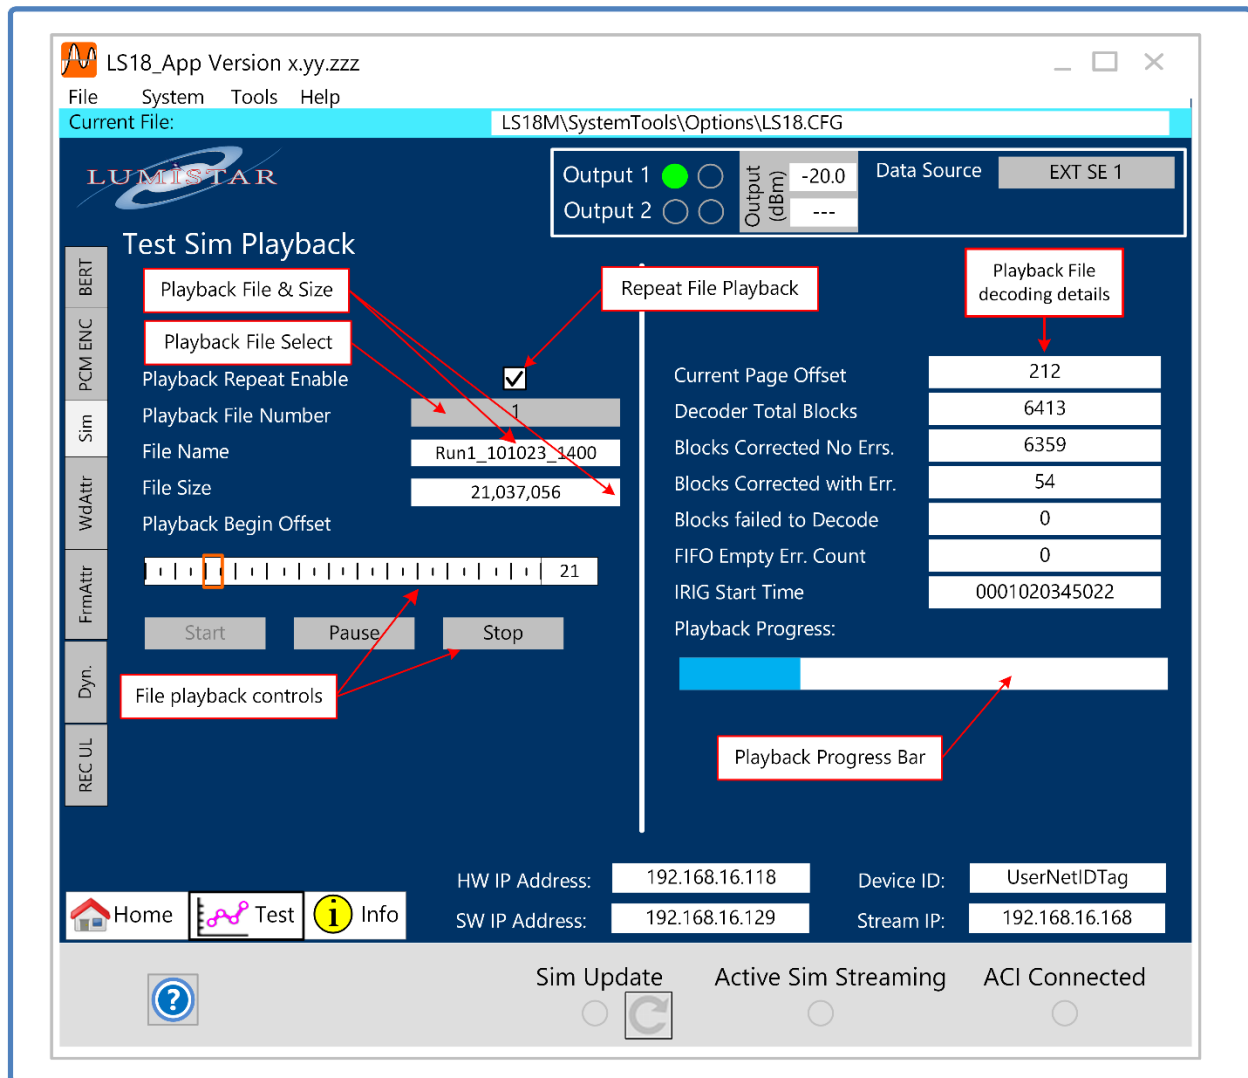

Figure 5-12 File Playback Controls
- 5.) Refer to Figure 5-12 for the remaining steps.